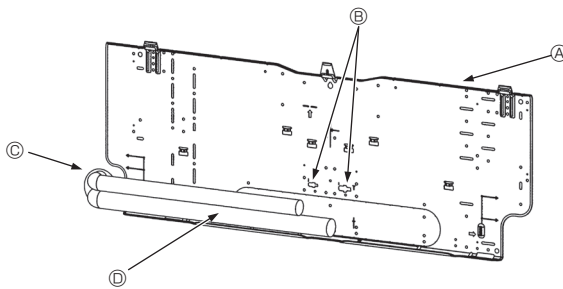

Fig. 3-5
3.3. When embedding pipes into the wall (Fig. 3-5)
- ▲ (A) Mount board ①
- ▲ (B) Reference marking for flare connection
- ▲ (C) Through hole
- ▲ (D) On-site piping